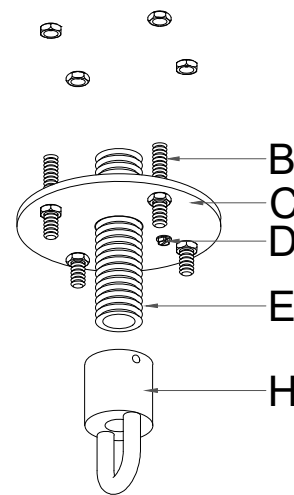

FIGURE 01
2. Place Heavy duty mounting bracket(C) on the building structure by using (4pcs) Machine bolts(B) and attach the Collar loop(H) to the Nipple(E). (**see fig. 01**)